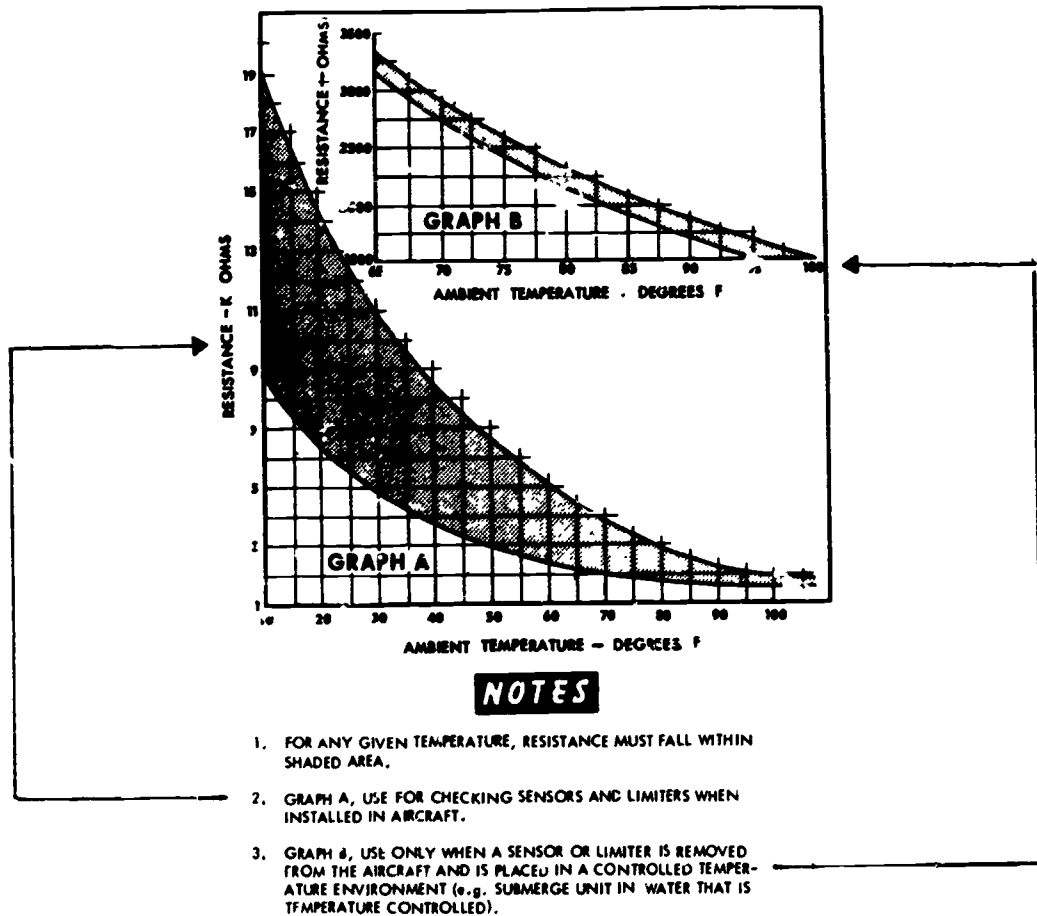

Figure 3. Temperature Sensor Resistance Graph.
d. The graph illustrated in figure 3 shows the normal sensor resistance. This is the same type of graph you will use on the flight line. Determine the resistance range for the cabin sensor. Is the measured resistance of the sensor within the range given on the graph? (yes/no). If your answer was no, ask the instructor for assistance.